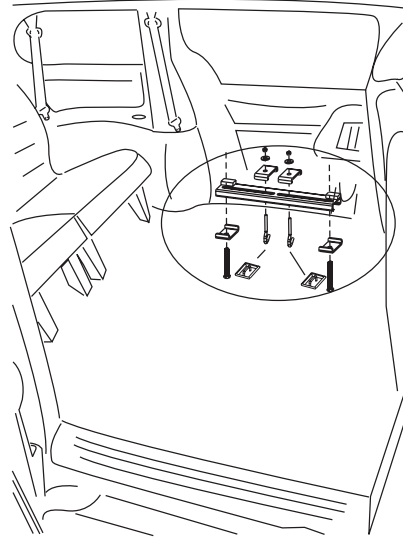

Figure 4-39
4. If Seat Attachment Points ARE Available: *See Figure 4-39 for mounting diagram.*